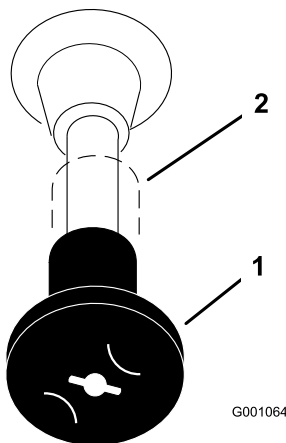

Figure 15
4. Move the choke control to the on position before starting a cold engine (Figure 15).
7. After the engine starts, move the choke to off (Figure 15). If the engine stalls or hesitates, move the choke back to on for a few seconds, then move the throttle lever to desired setting. Repeat this as required.